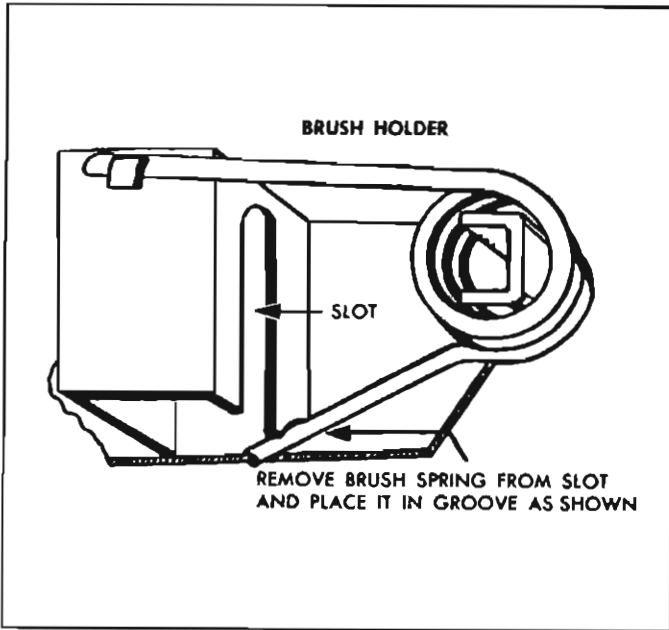

Fig. 8-13—Releasing Brush Spring Tension
2. Release brush spring tension (fig. 8-13), slide armature and end plate from motor frame. Pull end plate from armature.